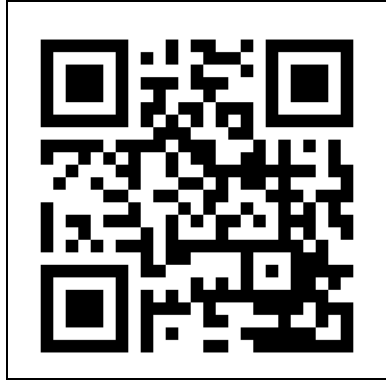

Figure 19
1. Open the Eurom Smart App manual with the QR code (Figure 19) or go to [www.eurom.nl/nl/manuals](http://www.eurom.nl/nl/manuals).